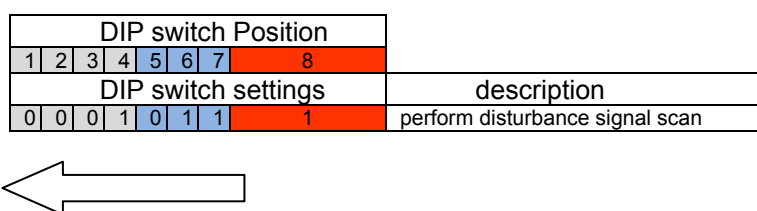

Figure 11: perform disturbance signal scan
- set the DIP switch positions to the 0/1 sequence in Fig. 11 on the left; start from position 8 and move towards position 1!